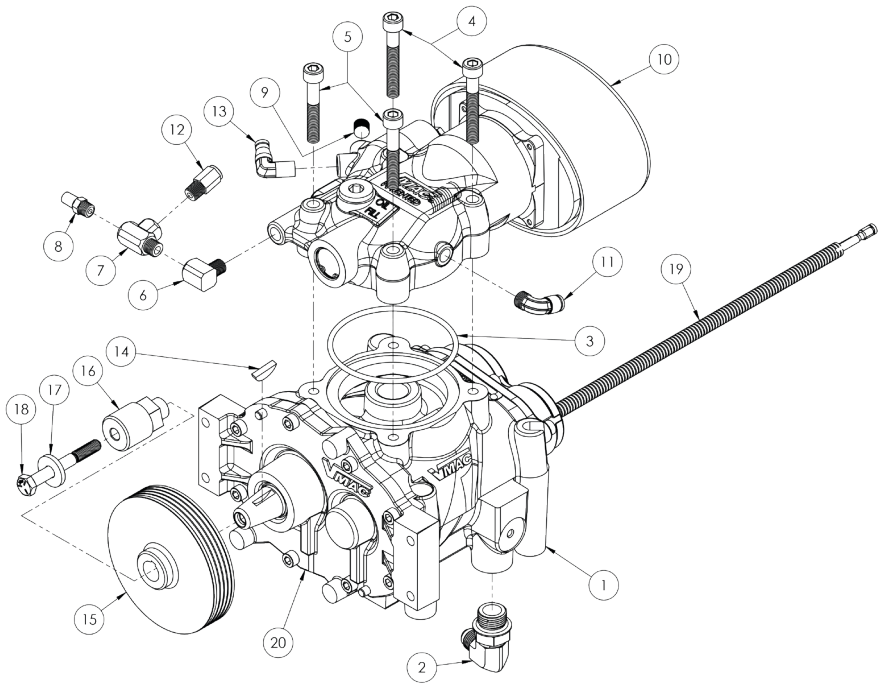

Figure 77 — Compressor Assembly (P190011)
2. Compressor Assembly, P190011 (Figure 77)